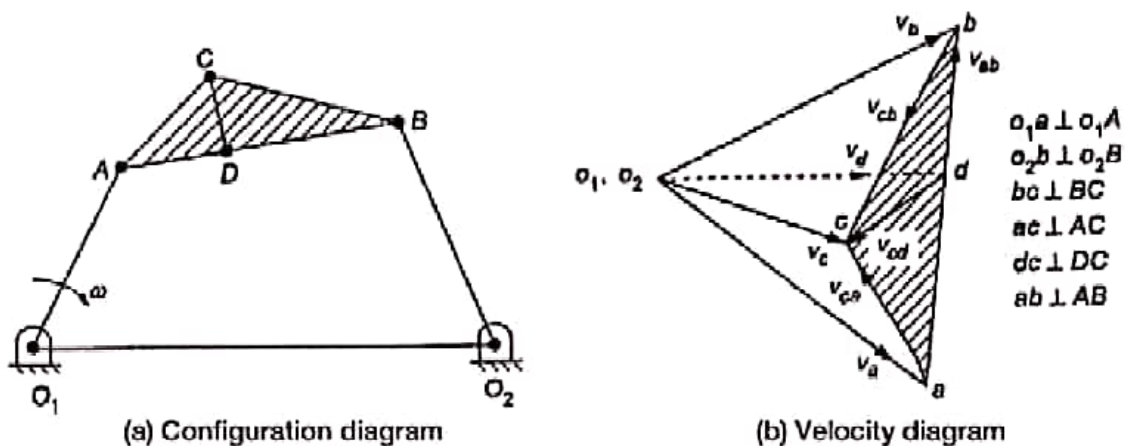

Fig.2.7 Four-bar mechanism with ternary link
- (a) Consider the four-bar mechanism, as shown in Fig.2.7(a), in which the crank O_1A is rotating clockwise with uniform angular speed ω . The linear velocity of point A is $v_a = \omega \times O_1A$ and it is perpendicular to O_1A . Therefore, draw $o_1a \perp O_1A$ to a convenient scale in Fig.2.7(b). The velocity of point B is perpendicular to O_2B . Therefore, at point o_1 , draw $o_1b \perp O_2B$. The relative velocity of B with respect to A is perpendicular to AB . Therefore, draw $ab \perp AB$ meeting the line drawn perpendicular to O_2B at b . Then $v_b = o_1b$, and $v_{ba} = ab$. To find the velocity of joint C , draw $ac \perp AC$ and $bc \perp BC$ to meet at c . Join o_1c . Then $v_c = o_1c$.